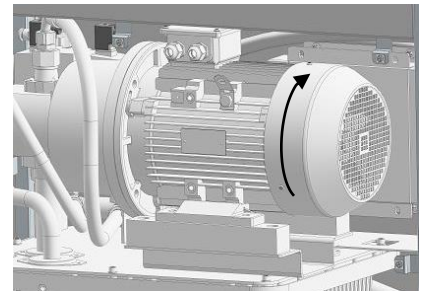

Fig. 17
- Open the front cover of the machine. Check the direction of rotation of the electric motor by switching on the hydraulics in the manual operation menu (Fig. 17). If the direction of rotation matches the direction of the arrow, the motor can be switched off again.